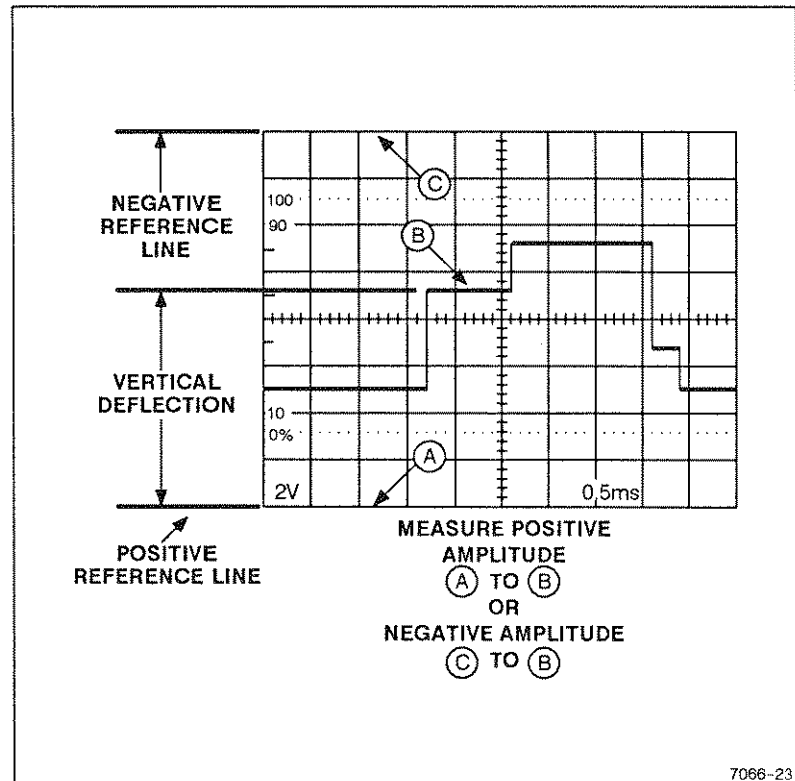

Figure 6-2. Ground-referenced voltage measurement.
4. Set the AC-GND-DC switch to DC. Measure the divisions of vertical deflection between the reference line and the desired point on the waveform (see Figure 6-2).
**EXAMPLE:** The vertical distance measured is 4.6 divisions (see Figure 6-2). The waveform is above the reference line, the VOLTS/DIV switch is set to 2 V, and a 10X scale-factor-switching probe is used.